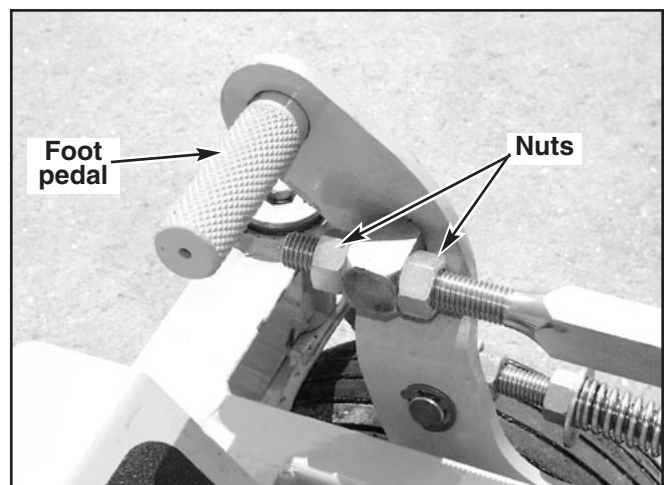

Figure 11-38
7. Loosen the two nuts on the front of height indicator so that the foot pedal is free. Fig. 11-38
12. While keeping the chain tight, tighten the nuts against the deck lift block on the height indicator rod. Fig. 11-38